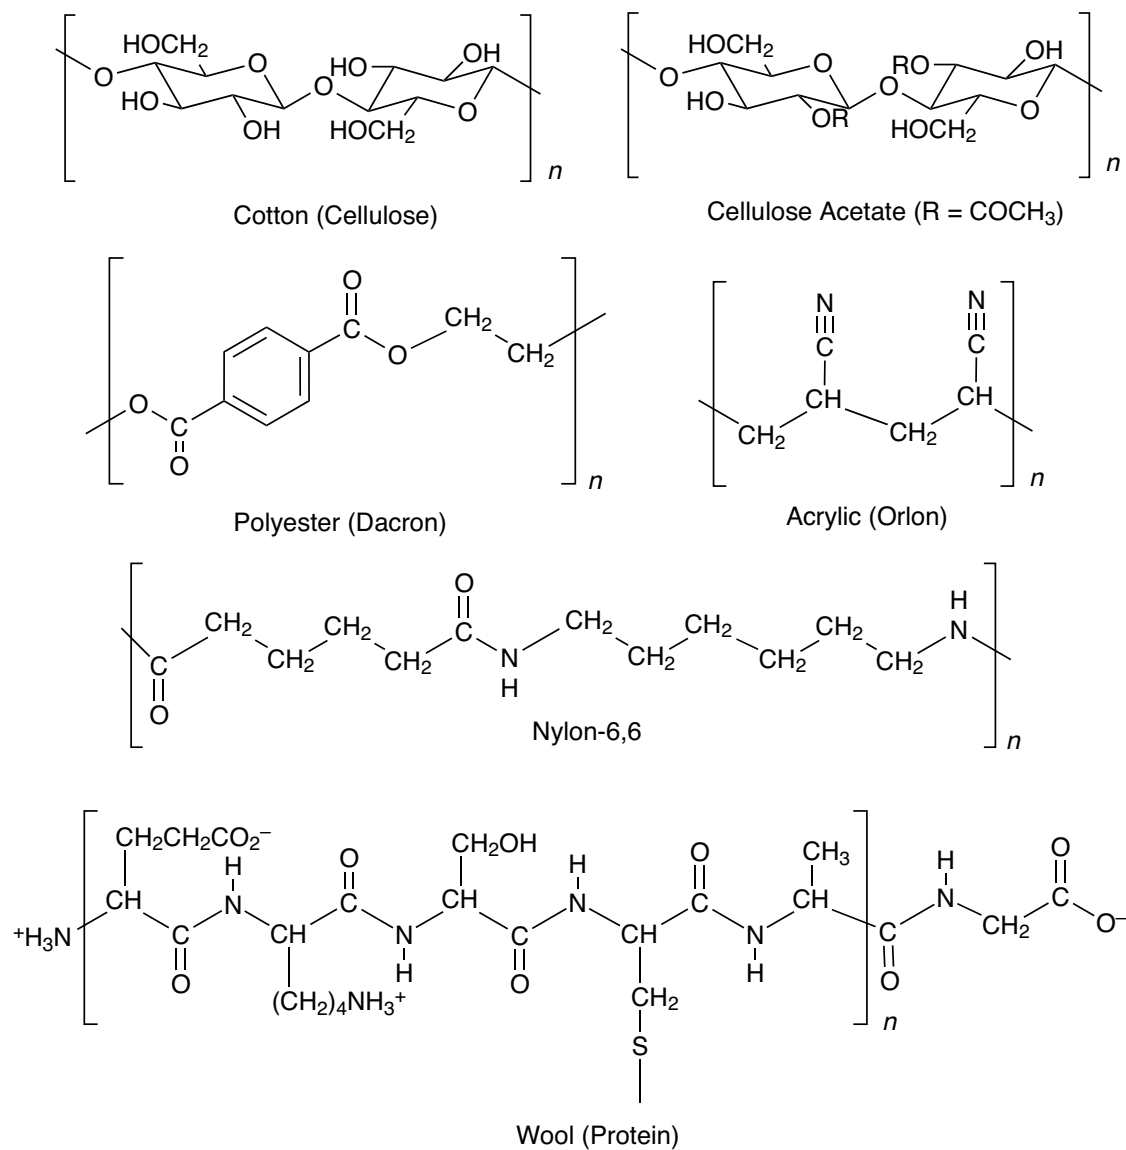

Figure 1. Chemical Structures of Fabric Molecules.
The chemical structures of six common fabrics—wool, acrylic, polyester, nylon, cotton, and acetate—are shown in Figure 1 on page 2. Cotton and wool are natural fibers obtained from plants and animals, while acrylic, polyester, and nylon are synthetic fibers made from petrochemicals. Acetate, also called cellulose acetate, is prepared by chemical modification of natural cellulose. All fabrics, both natural and synthetic, are polymers. Polymers are high molecular weight, long chain molecules made up of multiple repeating units of small molecules. The structures of the repeating units are enclosed in brackets in Figure 1. The number of repeating units (n) varies depending on the fiber and how it is prepared.
- Consult Figure 1: What feature stands out as unique in the structure of the fabric that was the easiest to dye? What feature stands out as unique in the structure of the fabric that was hardest to dye?